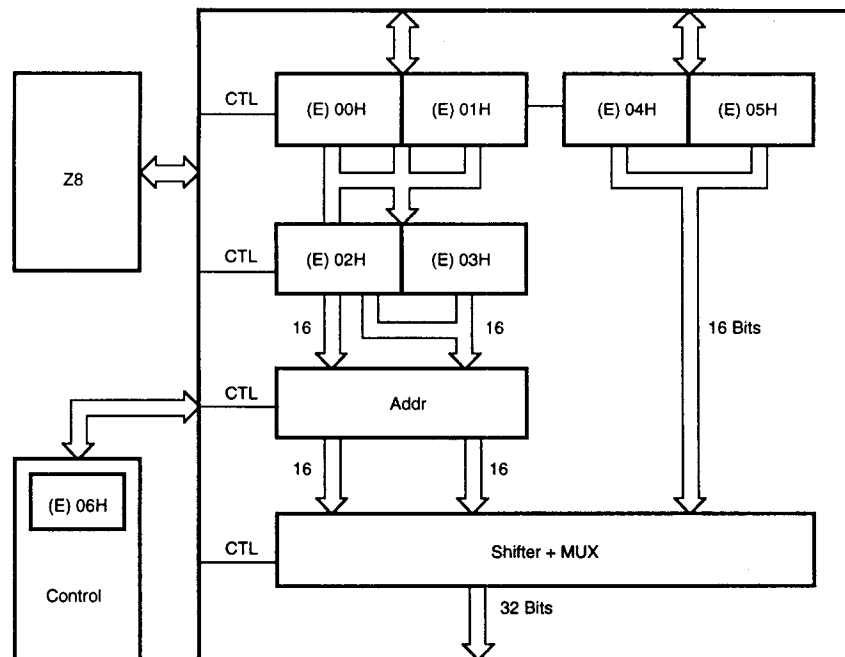

Figure 16. Multiply/Divide Unit Block Diagram
**Interface to Z8.** The following is a brief description of the register mapping in the multiply/divide unit and its interface to the Z8 (Figure 16).
**Control register.** The MDCON (Multiply/Divide Control Register) is used to interface with the multiply/divide unit (Figure 16). Specific functions of various bits in the control register are given below.